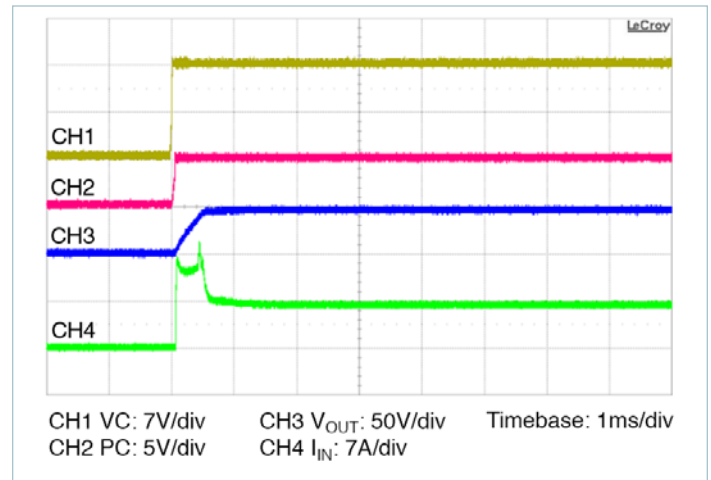

Figure 14 — Start up from application of VC; V_{IN} pre-applied $C_{OUT} = 100\mu\text{F}$
- **Stand-alone operation (VC applied after V_{IN}):** In this case the VTM output will begin to rise upon the application of the VC voltage (See Figure 14). The Adaptive Soft-Start Circuit may vary the output rate of rise in order to limit the inrush current to its maximum level. When starting into high capacitance or a short, the output current will be limited for a maximum of 1200 μ s. After this period, the Adaptive Soft-Start Circuit will time out and the VTM module may shut down. No restart will be attempted until VC is re-applied or PC is toggled. The maximum output capacitance is limited to 100 μ F in this mode of operation to ensure a successful start.